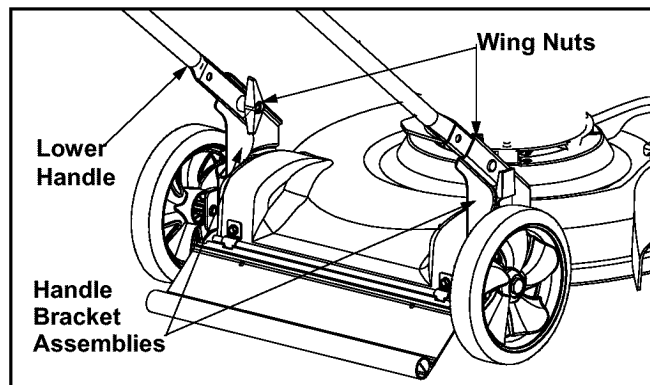

Figure 3
- Tighten the wing nuts at the end of the lower handle to secure the handle to handle bracket assemblies. See Figure 3.